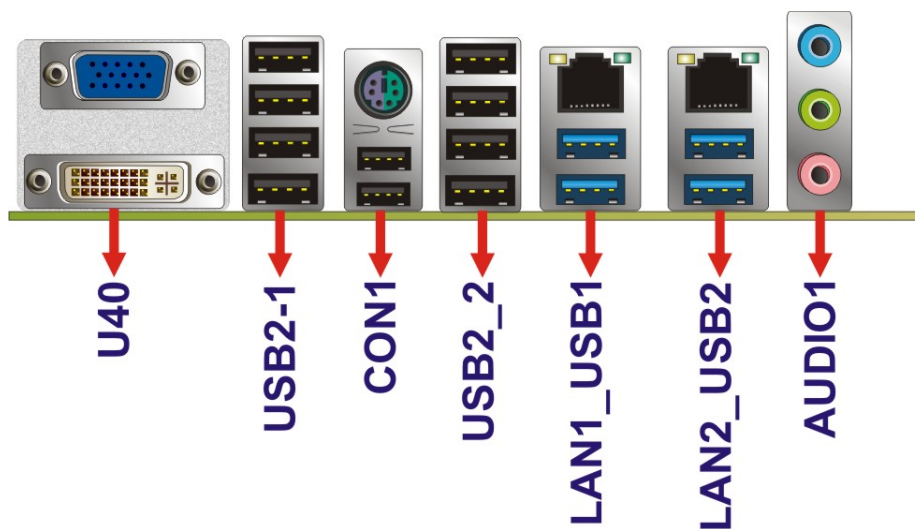

Figure 3-15: External Peripheral Interface Connectors
Figure 3-15 shows the KINO-KX external peripheral interface connector (EPIC) panel. The EPIC panel consists of the following:
CN Location:	See Figure 3-15
- CN Location:** See **Figure 3-15**
CN Location: See **Figure 3-15**